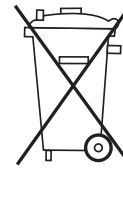

Fig. 2
5. if at end-of-life the EEE contains a battery (Fig. 2), this must be removed following the instructions provided in the user manual before disposing of the equipment. Used batteries must be taken to appropriate waste collection centres as required by local regulations;